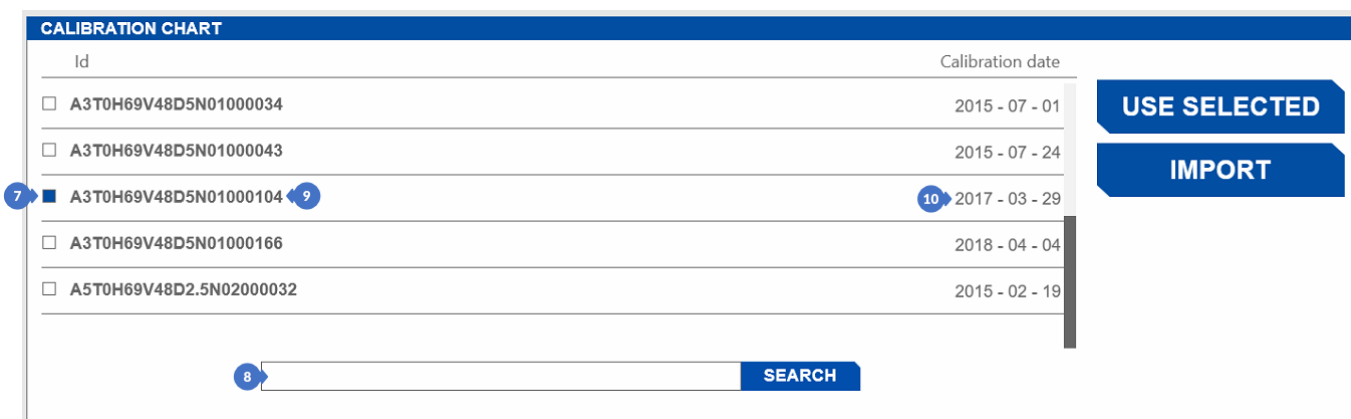

Figure 153. Calibration chart selection windows
The selected calibration chart file has a marked field (blue square to the left of the name) (7) (Figure 153).